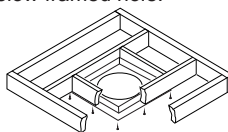

Figure 23 - Installing Firestop
1. Cut a 10 3/4" square hole in the ceiling using the locating hole as a center point. The opening should be framed to 10 3/4"x10 3/4" inside dimensions, as shown in Figure 18 on page 14 using framing lumber the same size as the ceiling joists. If the area above the ceiling is an insulated ceiling or an attic space, nail firestop from the top side. This prevents loose insulation from falling into the required clearance space. If the area above the ceiling is a living space, install firestop below the framed hole. The firestop should be installed with no less than three nails per side (see Figure 23).